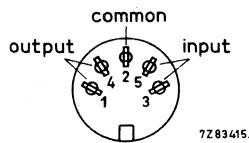

Fig. 3 DIN audio socket.
- Fixed mains cable (1) with plug with side earth-contact; length 2,4 m.
- Fixed 8-core cable (2) with 9-pole female plug F161, for connection to programming unit interface PU21; length 2,5 m. For terminal location see Table 1.
- EIA-standard interface connector plug (3), according to RS449/423, for connecting data terminal equipment (DTE), like CRT terminals, punchers, printers, readers. The pins 4, 6 and 19 are operational, along which data exchange can take place. For data terminal equipment, which requires more interconnections, Table 2 should be consulted.
- DIN-socket (4) for connecting a normal audio cassette recorder (see also Fig. 3). To avoid drop-outs it is recommended that C60 Super Quality Ferrochromium cassette tape be used.
- Note: At the rear of the programming unit provisions (5) are made for stowage of the mains cable and the 8-core cable during transport.